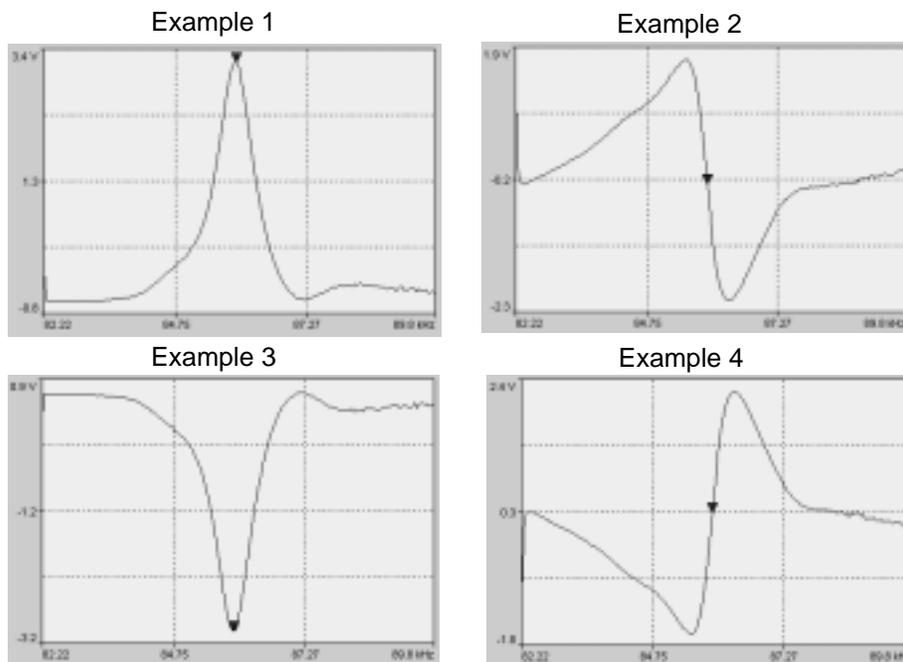

Figure 2-46. 90° changes in phase angle.
4. If you click on the spectrum button to sweep the frequency range after each 90° increment in the phase, you should see each of the waveforms shown in Figure 2-46.